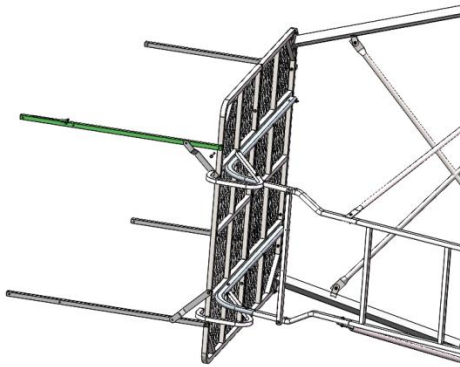

Figure 17
Step 16: Attach the door upright left rail (TS305.22) to the platform by using one 1/4"-20×2" bolt (48153B) and one 1/4" lock nut(48752B). Leave these hand tight for now. (**Figure 17**)